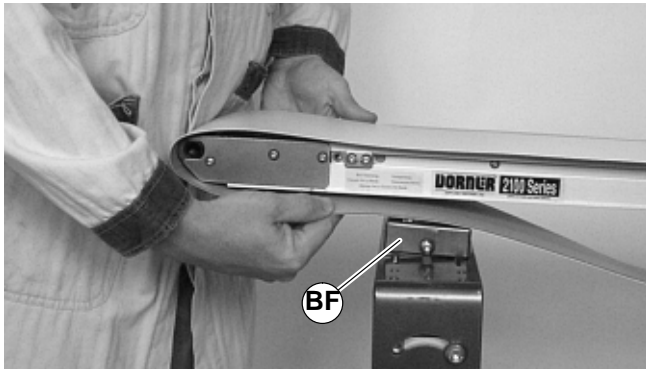

Figure 21
13. Loosen the mounting clamp plates (BF of Figure 21) on both sides of the conveyor. Raise the conveyor and remove the belt.
6. Loosen the mounting clamp plates (BF of Figure 21), on both sides of the conveyor. Raise the conveyor and replace the belt.